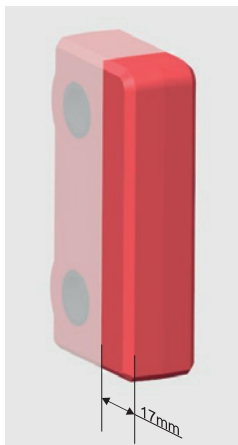

Fig. 12
- The CSMS and the actuator must not be flush mounted in metallic materials. 17 mm should be maintained (see fig. 12).